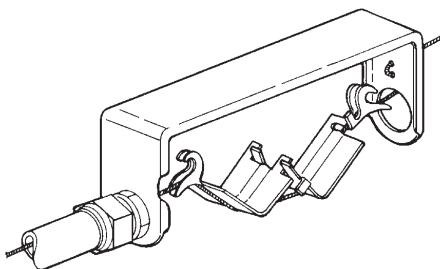

FIGURE 24
10. Next, rotate both halves of the detector linkage upside down, with the detector linkage groove over the wire rope. See Figure 24.